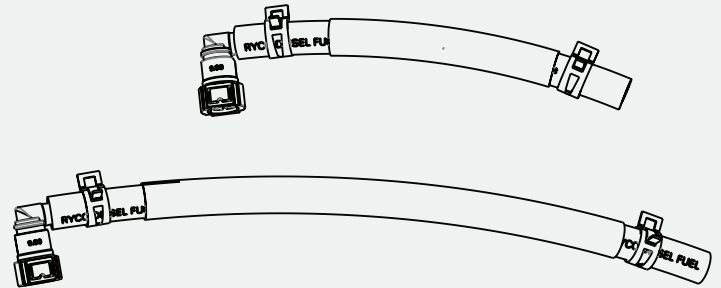

FIGURE 3
- 4 Install one of the supplied elbow connector onto one end of supplied fuel hoses and install two (2) supplied fuel hose clamps onto both ends of fuel hoses, as per FIG. 3. Do not tighten fuel hose clamps yet.